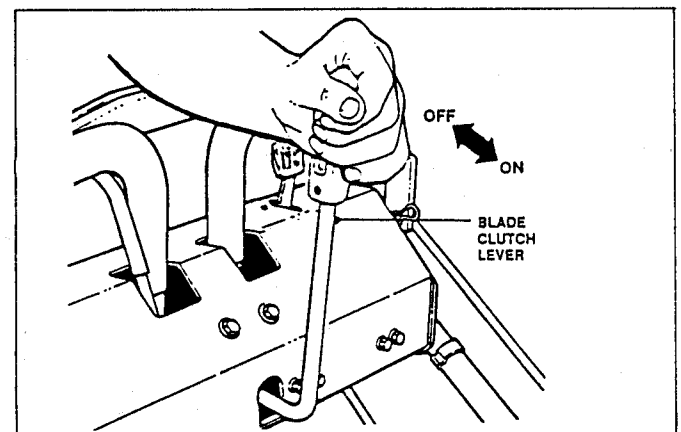

FIGURE 7
- a. **LOOP HANDLE** - Pull Blade Clutch Lever backward (toward handlebar) to the **OFF** position. See Figure 7.
10a. **LOOP HANDLE** - Push Blade Clutch Lever to **ON** position. See Figure 7.